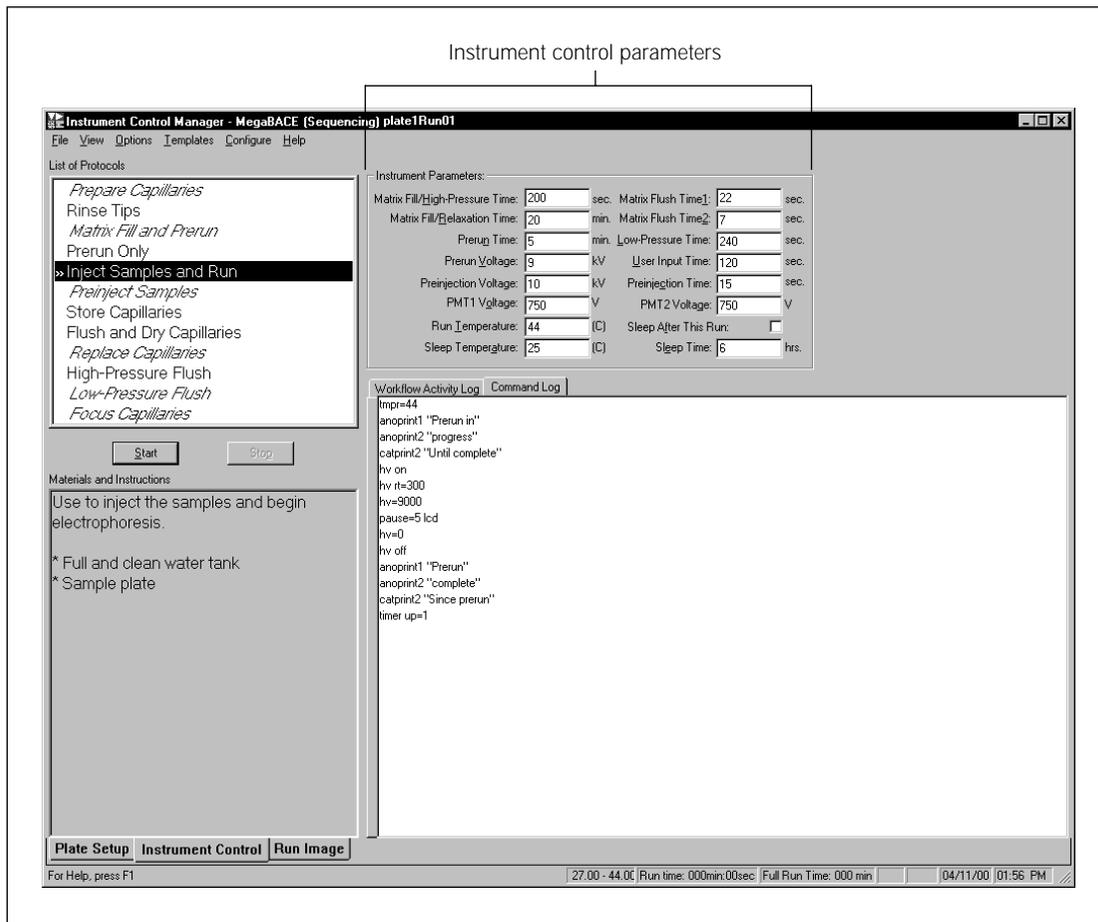

Figure 4-7. The Instrument Control window with the sequencing instrument parameters displayed.
The instrument control parameters are displayed in the Instrument Parameters area of the Instrument Control window (figure 4-7). Table 4-1 describes the instrument control parameters. You can create a template from the values entered in the Instrument Control window, or you can create a template using a text editor or Excel (section 5.5).
1. Click the **Instrument Control** tab to display the Instrument Control window (figure 4-7).
- Select the template (.icp) you want to modify and click **Open**. The values of the selected template appear in the Instrument Parameters area (figure 4-7).